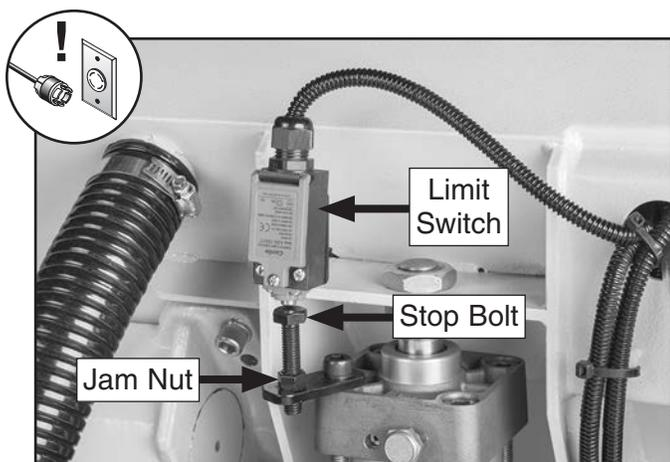

Figure 77. Limit switch stop bolt and jam nut location.
- Loosen stop bolt jam nut (see **Figure 77**), then adjust stop bolt until head of stop bolt just begins to press the limit switch trigger.